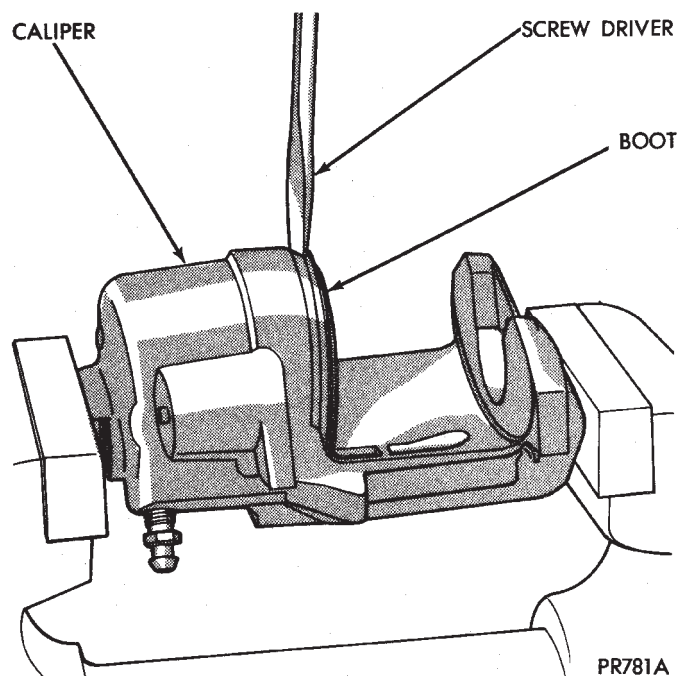

Fig. 84 Removing Caliper/Piston Dust Boot
(5) To disassemble caliper, mount in a vise equipped with protective jaws.
(6) Remove guide pin sleeves and guide pin bushings. See Removing Guide Pin Bushings in the caliper disassembly section of this manual.
(7) Remove the piston dust boot from the caliper and discard (Fig. 84).